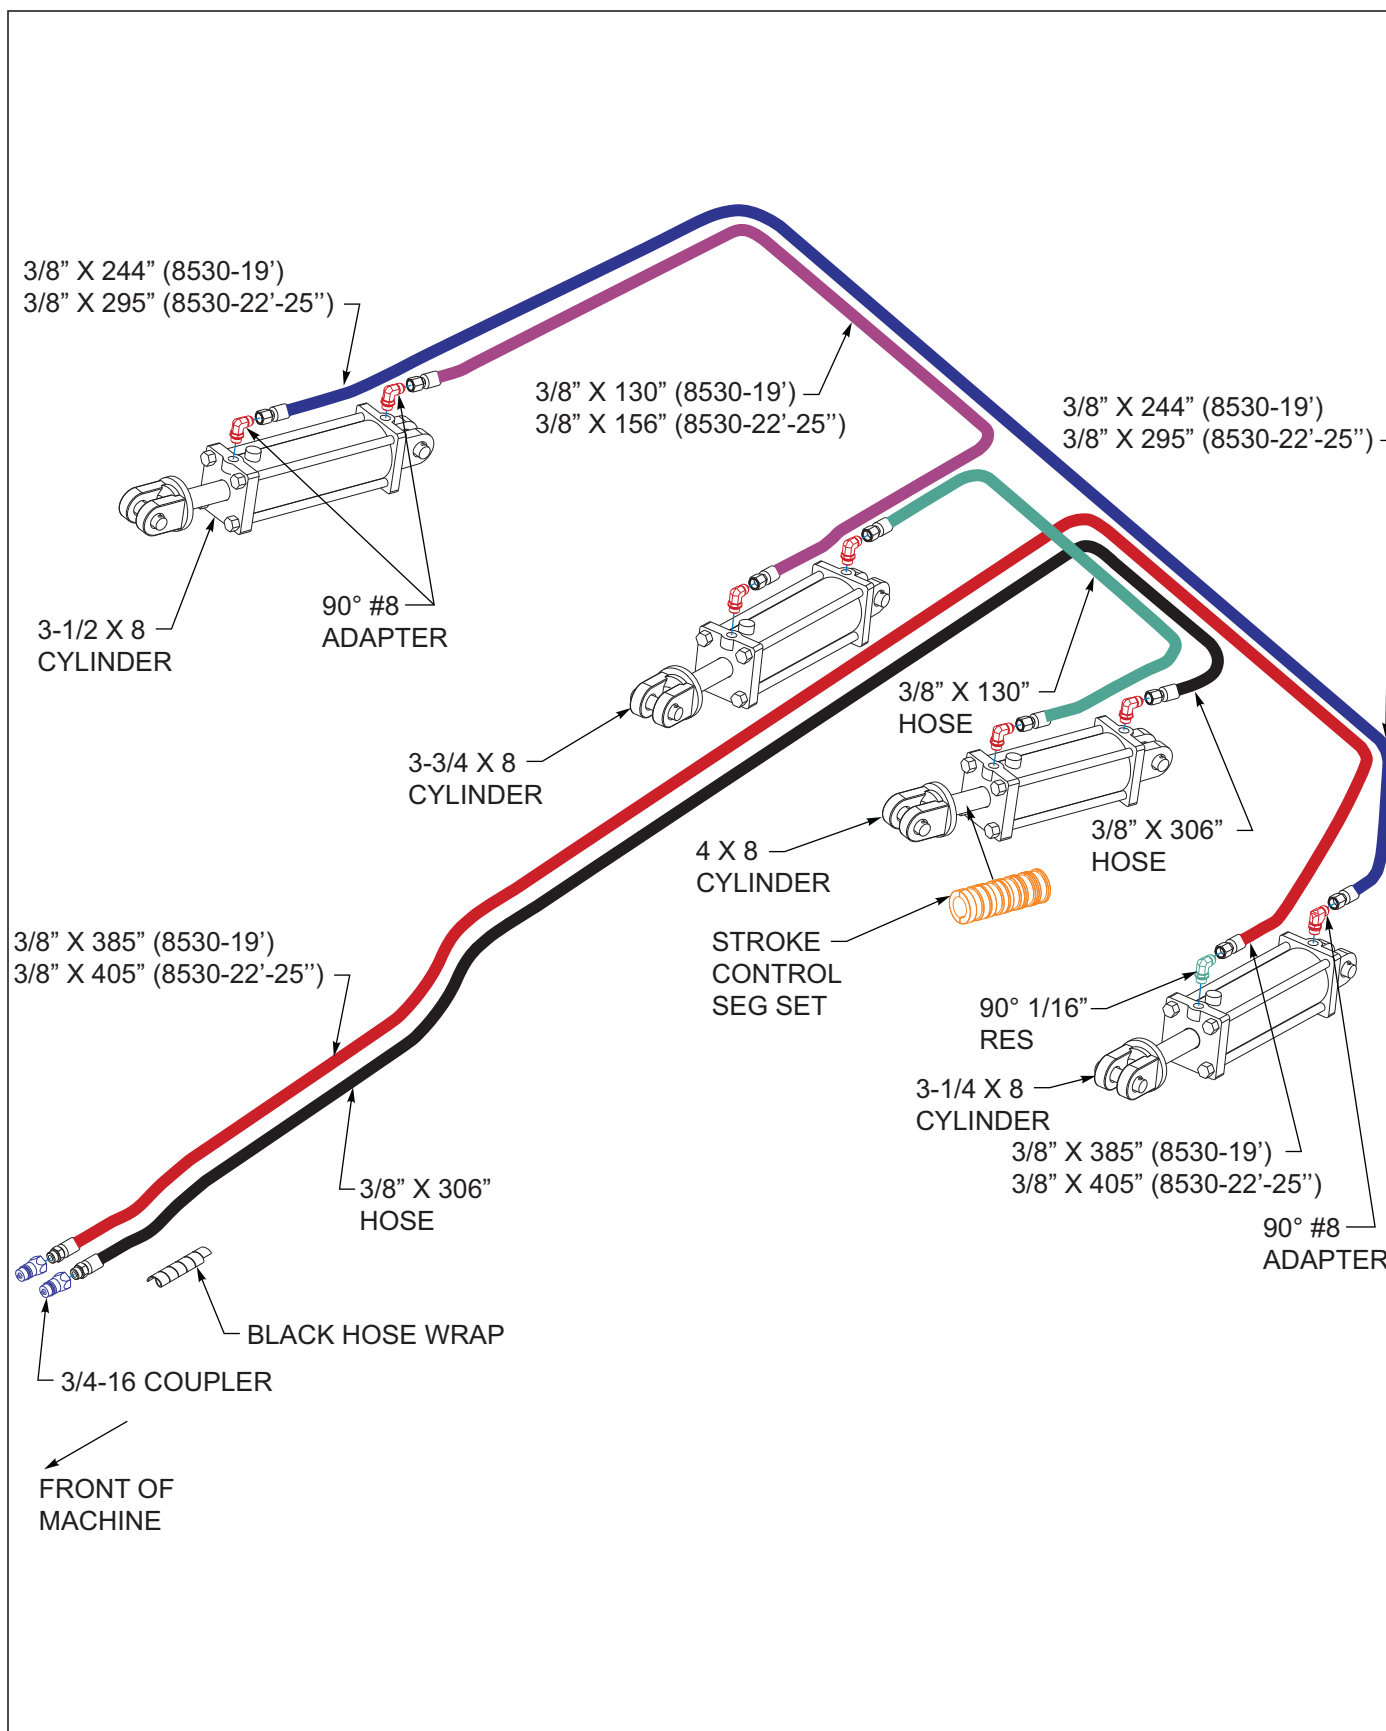

Figure 3-50: Hydraulic Gang Installation 8530-19'-25'
7. For optional hydraulic disc gang adjustment – Install the gang adjustment cylinder fittings and hoses as shown in **Figures 3-50 through 3-55**. Route the hoses along the right side of the hitch, and through the hose loops provided along the frames. Wrap the front ends of the fold hoses with a yellow hose wrap.
2. For the optional hydraulic gang adjustment – connect the gang cylinders hoses to the tractor and charge the cylinders with oil See Figures 3-50 through 3-55. Charge the hydraulic disc gangs with oil before attempting to fold the finisholl (See “Hydraulic Disc Gang System” on page 4-4.) Watch the disc gangs carefully when initially charging with oil to make sure the gang do not bottom out on the frame when cycling. Disc gangs may require leveling before being able to fully cycle.